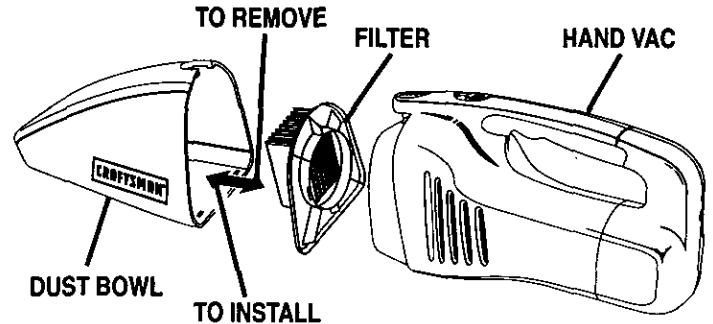

Fig. 5
- Place the filter in the dust bowl in the direction shown in Figure 5.
- Remove the filter by simply pulling it out of the dust bowl. See Figure 5.